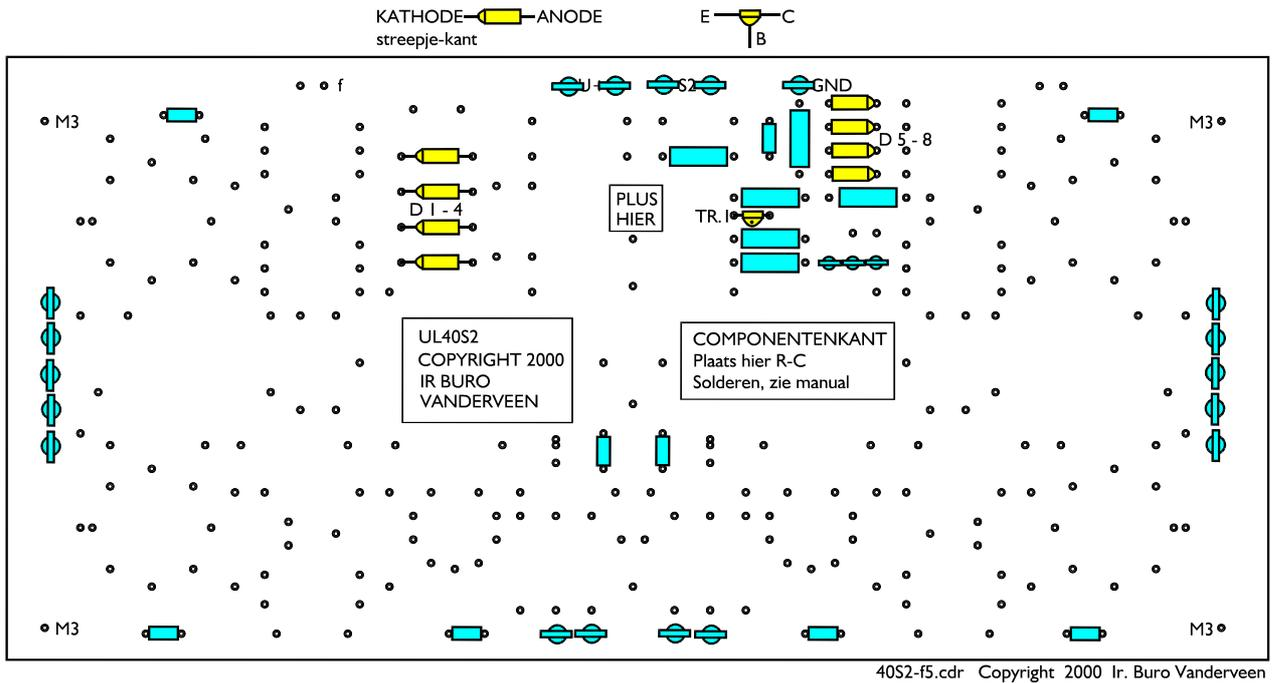

Figure 5
1. Diodes D1-4 and D5-8 each are all type 1N4007. These black diodes carry a clear white ring marking the cathode. Each cathode is marked with a black line in figure 5.